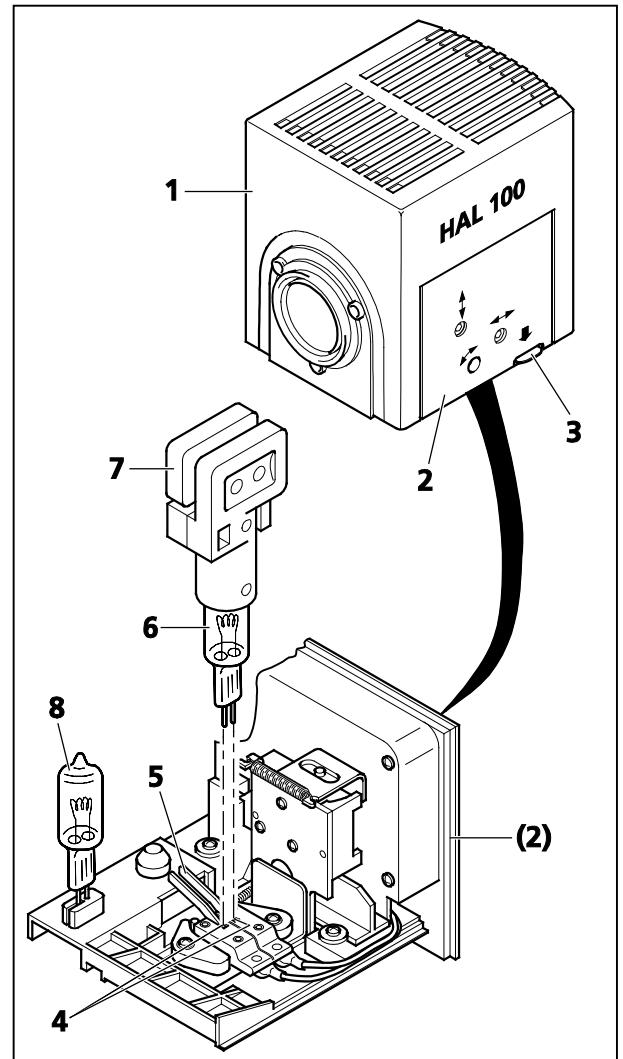

Figure 3-20 Replacing a halogen lamp
To replace the halogen lamp, the lamp housing does not need to be removed from the stand. **DO NOT** keep the attached exchange tool (Figure 3-20/7) for the halogen lamp inside the lamp housing while the illuminator is in operation. The replacement bulb (Figure 3-20/8) may remain pinned up inside the lamp housing.
- Push down the unlock key (Figure 3-20/3) of the HAL 100 halogen lamp (Figure 3-20/1), pull out the bulb holder (Figure 3-20/2) completely, and put it down separately.
- Push down both spring levers (Figure 3-20/5), and pull out the old halogen lamp (Figure 3-20/6) upwards.
- Push down both spring levers, insert the new lamp into the lamp base (Figure 3-20/4), and release the spring levers. For holding/grasping the halogen lamp, use only the exchange tool (Figure 3-20/7), since any trace of fat on the halogen lamp may compromise its useful life.